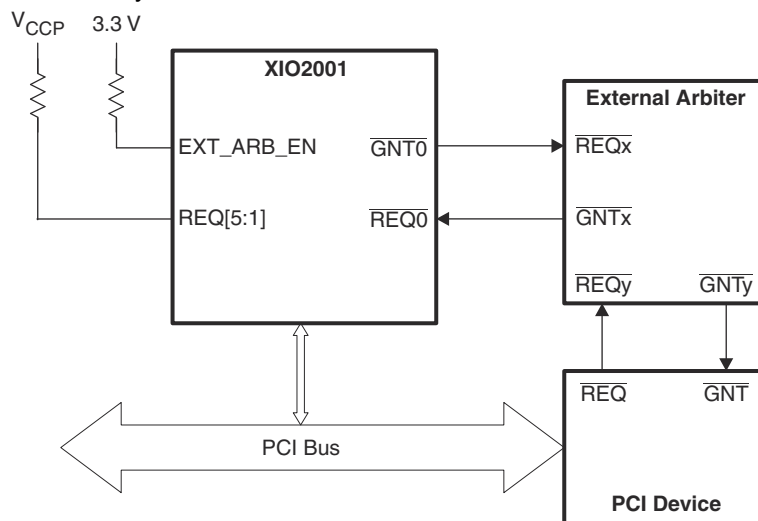

图 9-3. External Arbiter Connections
- The XIO2001 supports an external PCI bus arbiter. When $\overline{\text{PERST}}$ is deasserted, the logic state of the EXT_ARB_EN pin is checked. If an external arbiter is required, EXT_ARB_EN is connected to V_{DD_33} . When connecting the XIO2001 to an external arbiter, the external arbiter's REQ signal is connected to the XIO2001 0 $\overline{\text{GNT}}$ output terminal. Likewise, the $\overline{\text{GNT}}$ signal from the external arbiter is connected to the XIO2001 0 $\overline{\text{REQ}}$ input pin. Unused REQ signals on the XIO2001 should be tied together and connected to V_{CCP} through a pull-up resistor. When in external arbiter mode, all internal XIO2001 port arbitration features are disabled. 图 9-3 illustrates the connectivity of an external arbiter.